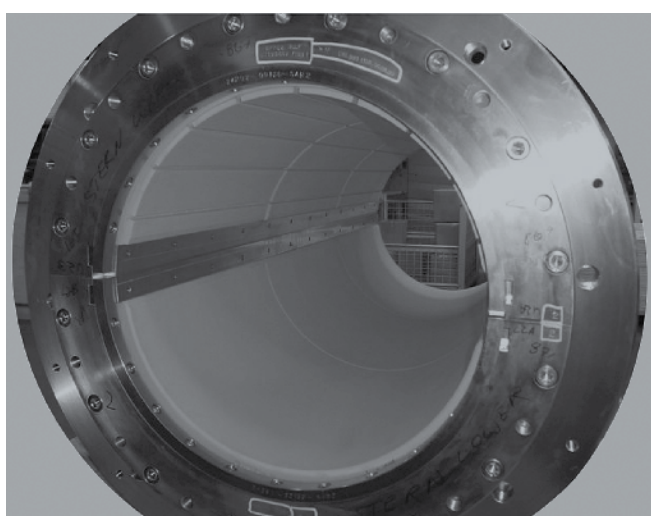

Figure 47: COMPAC Double Key Design Installation
6.2.4.2 DOUBLE KEY DESIGN (FIGURE 47)